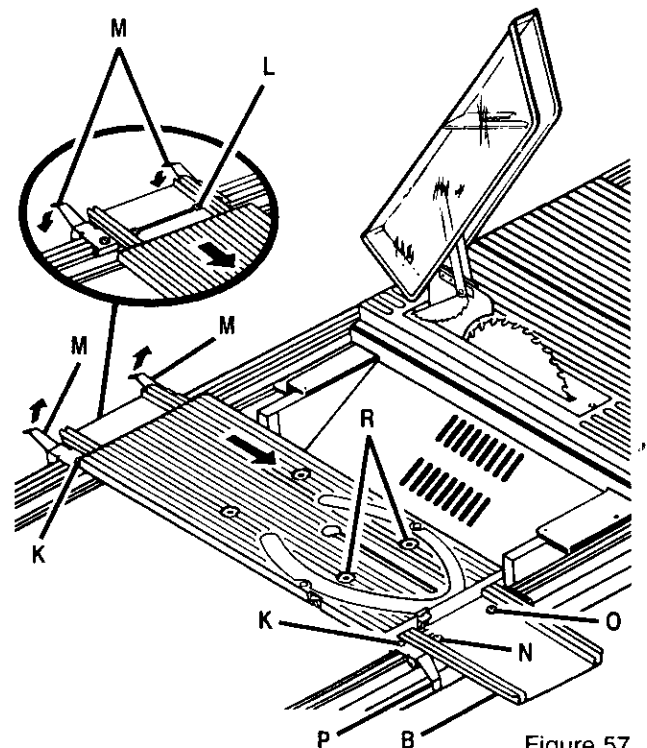

Figure 57
- Four screws (K) are on the holder plates and secure these plates to the rails. It is not necessary to loosen or adjust these screws for this adjustment procedure.
- Another pair of screws (L) is in the base, at the rear. Loosen these two screws (L) and the rear miter locking clamps (M). See Figure 57.
- The last pair of screws is located on the infeed side of the base. Loosen the left screw (N) **only**.
- The right screw (O) will be used as a pivot point. **Note:** The front two miter locking clamps (P) and rail clamps should remain locked.
- Retighten the left front screw (N).
- Clamp the rear miter locking clamps (M).
- Retighten the two rear screws (L).